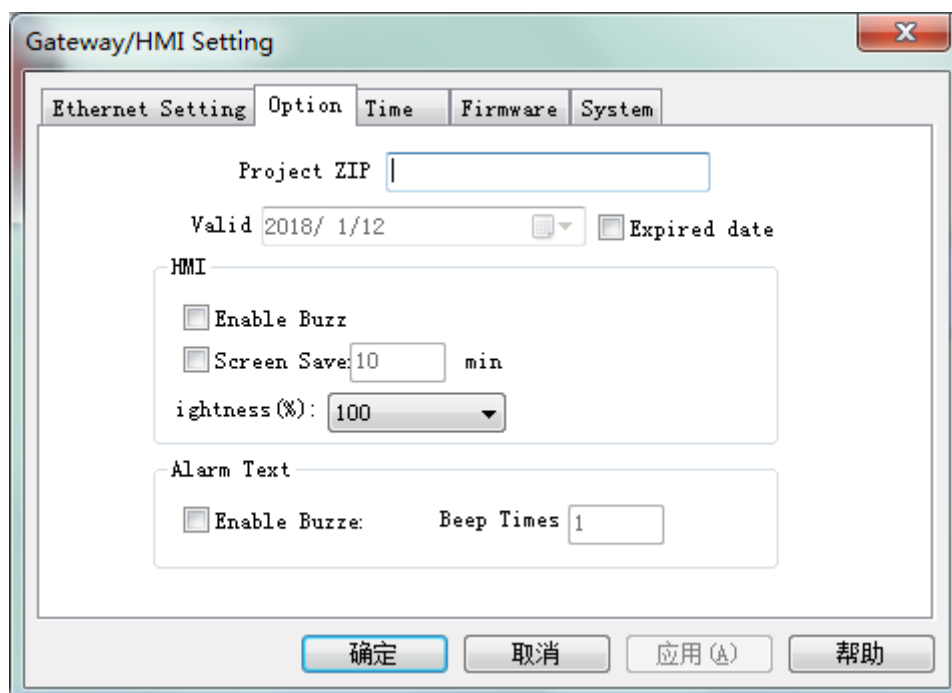

figure 4-13-3 Option
**Option** : as show figure 4-13-3.